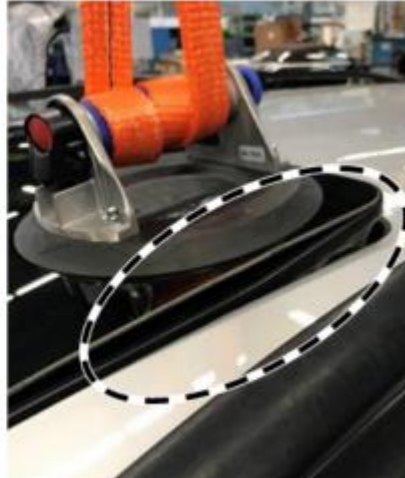

Figure 5 (not OK)
- i** If the sliding sunroof panel detaches from the padding of the tilting/sliding sunroof frame at one of the test positions (see figure 5), the sliding sunroof panel must be replaced.